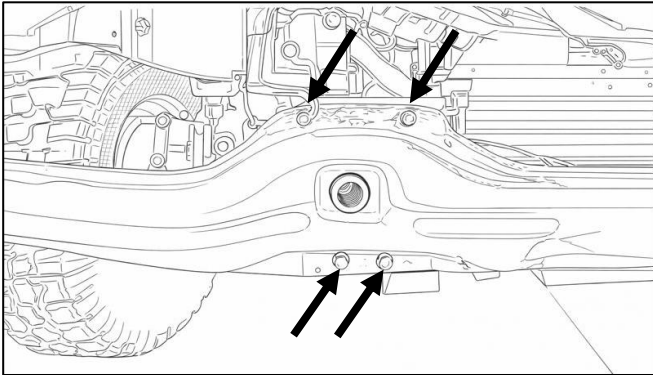

Figure 9: Stock Crossmember Bolting Location, Right Side
11. ☐ Using a 13 MM socket, remove the (8) bolts holding the stock crossmember to the frame rail. See Figure 9.